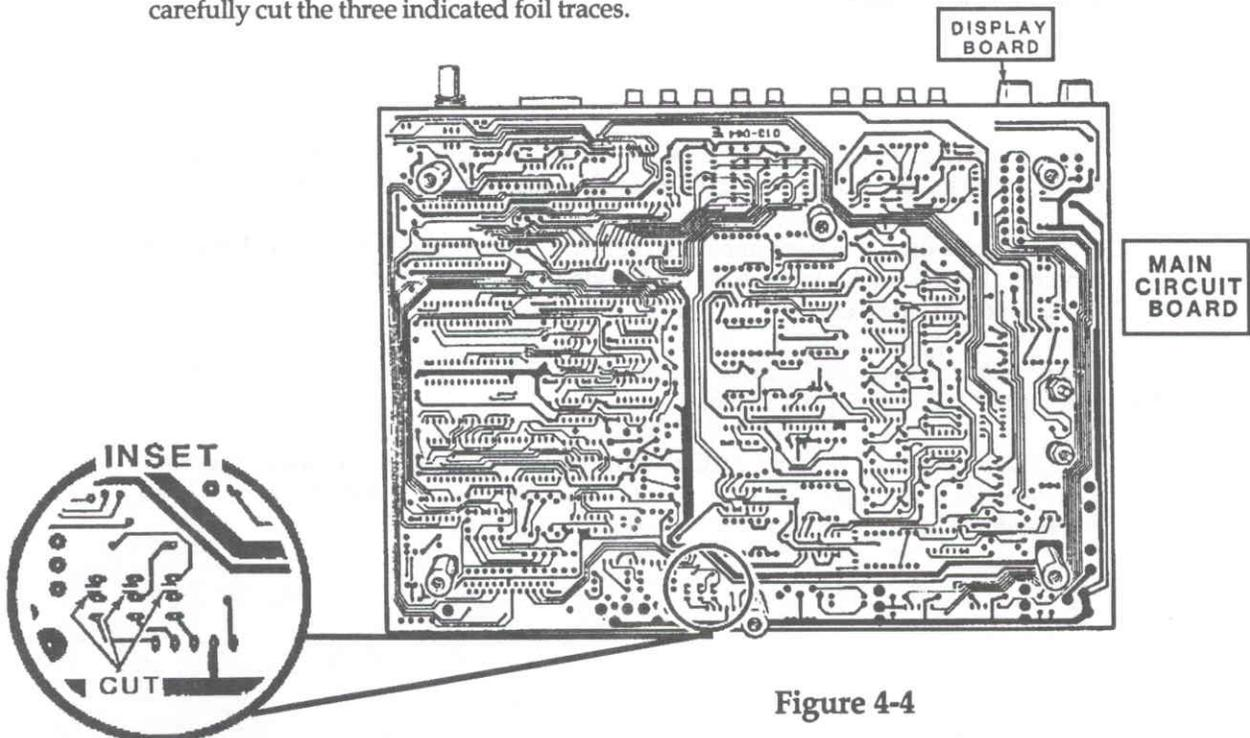

Figure 4-4
3. Position the main circuit board foil-side-up as shown in Figure 4-4. Then locate the foils that connect two pins on JP4, JP5, and JP6 together.
4. Refer to the inset drawing on Figure 4-4 and use a sharp modeler's knife to carefully cut the three indicated foil traces.